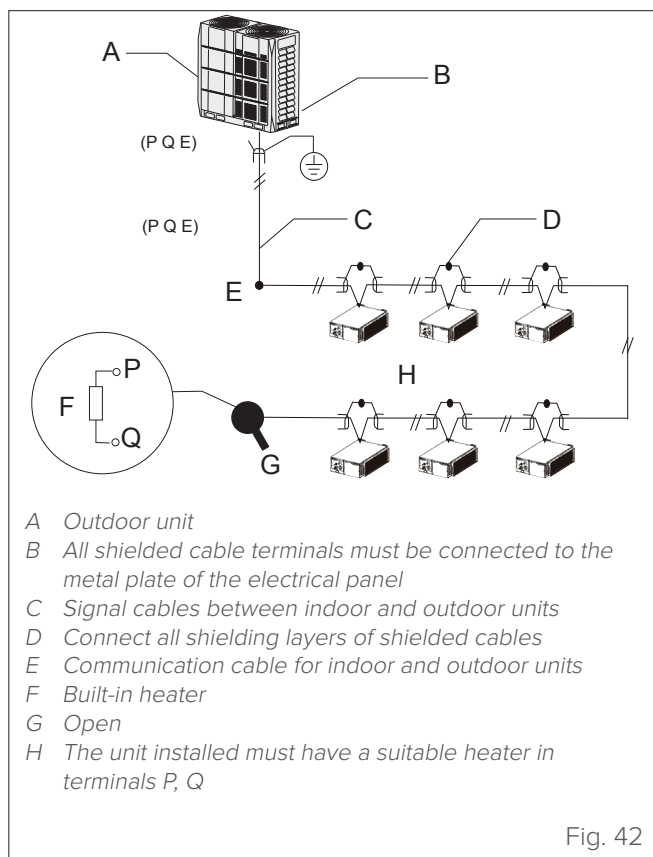

Fig. 42
- To increase the stability of the communication system, add a resistor to the last indoor unit. See “Fig. 42”.
- Use 1 wired controller or 2 wired controllers (one main and one secondary) to control 1 indoor unit (See “Fig. 42”);